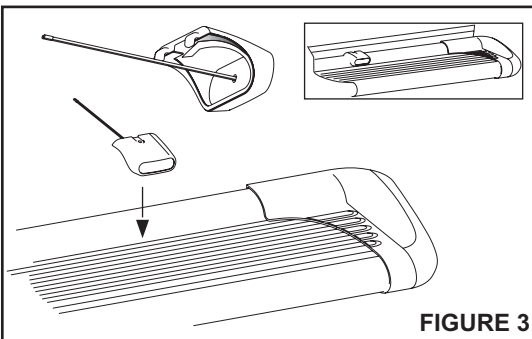

FIGURE 3
- STEP 4. For Sure-Grip Running Boards: Set lights (if purchased) in appropriate location. Attach to Sure-Grip Running Board as shown. Attach to running board as shown. See Figure 3. Drill hole through plastic strip and run wires as shown. See Figure 6.